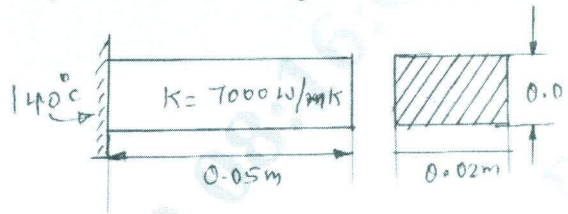

Fig.Q7(b)
b. Determine the temperature distribution in the rectangular fin as shown in Fig.Q7(b). Assume steady and only conduction process. Take heat generated inside the fin as 400 W/m^3 . (06 Marks)